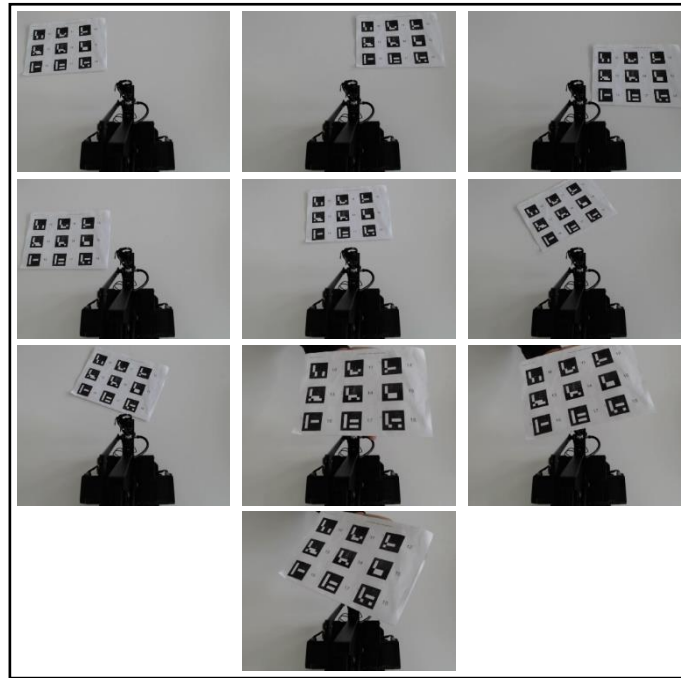

Figure 4. Marker Position
5. Before calibrating the camera, you must take images of the ArUco board in different positions and angles. See *Figure 4* for the exact location of the board. **You must ensure that all the marker is in the frame and not cut off or blocked.**